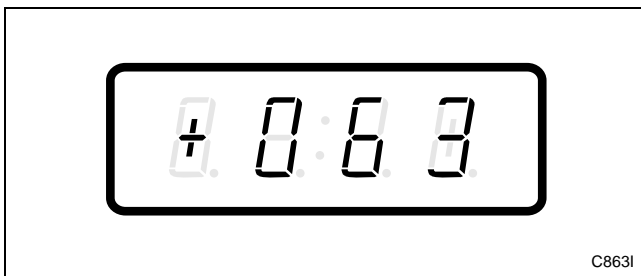

Figure 160
3. Press the DELICATES (+) or the COLD (-) keypad to scroll through the programmable options until “+063” appears in the VFD. Refer to *Figure 160*.